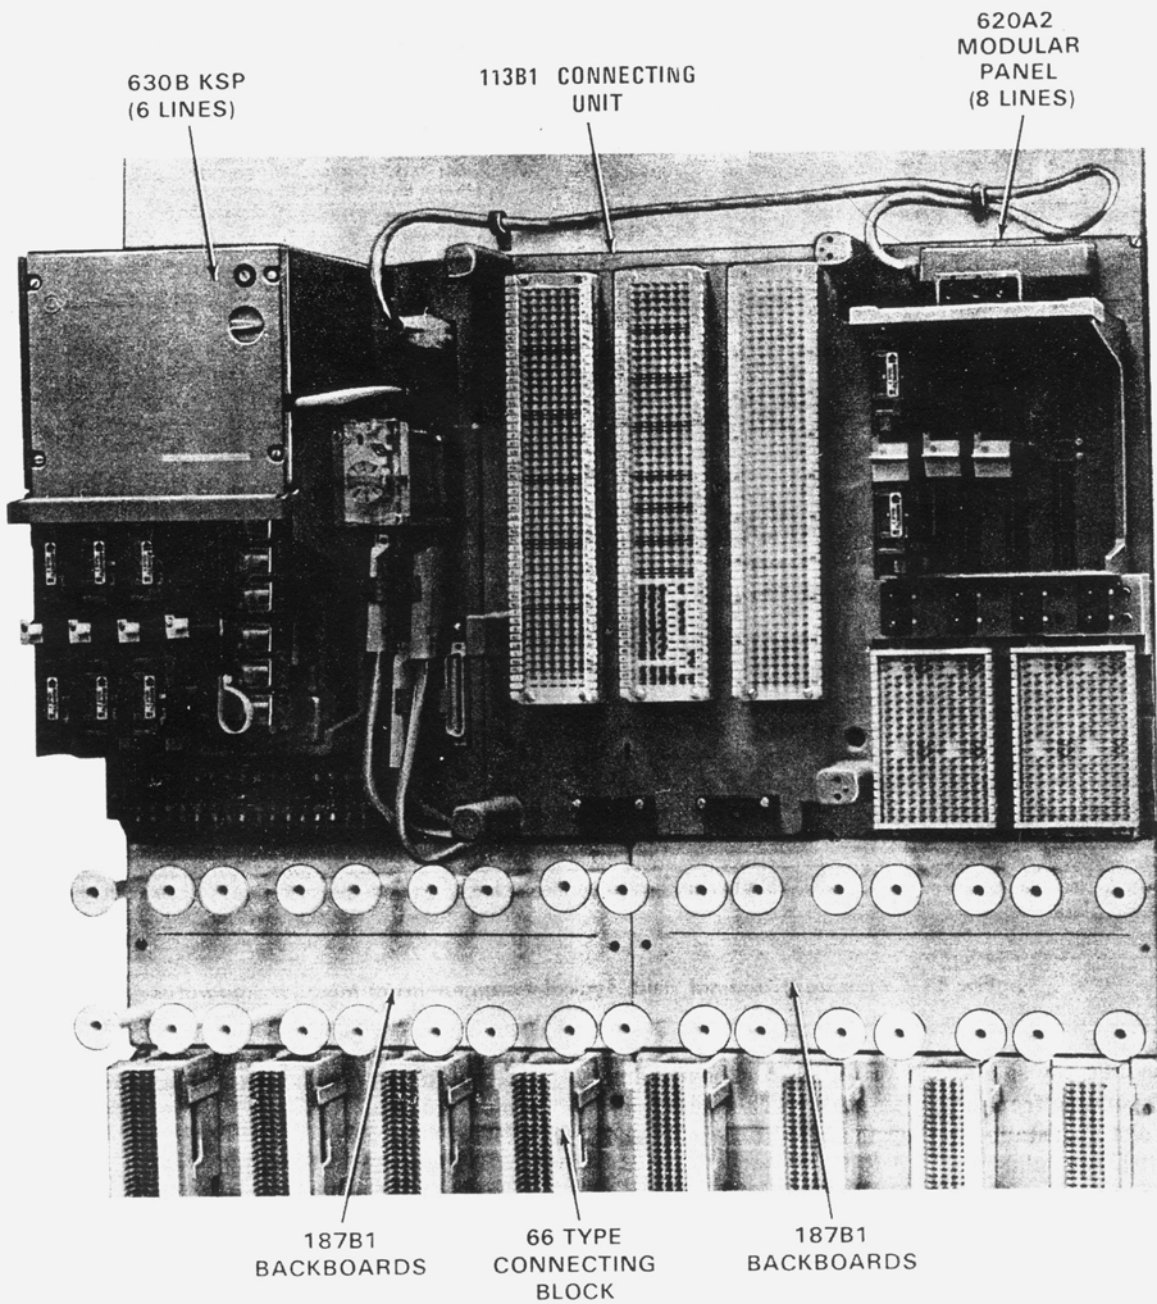

Fig. 7— ♦Typical Large KTS Installation With 630-Type KSP, 113A1 CU, and 620-Type Modular Panel♦
**3.08** A preferred installation method is illustrated in Fig. 7 using the 630-type KSP (Section 518-215-424) as the first modular panel in a centralized terminal field. The 287A1 power supply in the 630-type KSP will power two additional modular panels. With the arrangement in Fig. 7, the installer has the option of using the 113A1 connecting unit (CU) and modular panel terminals as a station terminal (BLUE) field, or may use the 113A1 CU and modular panel terminals as a KTS equipment (RED) field with the station terminal (BLUE) field mounted below.